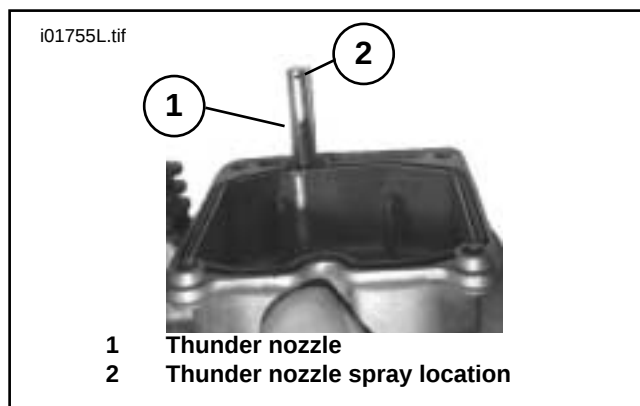

Figure 5. Stock Float Bowl and Thunder Nozzle Installed
2. See Figure 5 and Service Parts Illustration. Install the new check ball (13) and the new brass weight (14) into the float bowl. Press the new DYNOJET Thunder Nozzle (12) into the stock pump nozzle hole and lightly tap it into place with a soft hammer. The spray hole in the nozzle should face the brass float bowl drain tube.